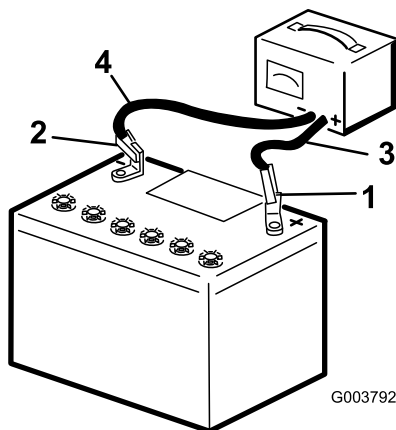

Figure 65
3. Connect the positive lead of the battery charger to the positive battery post (Figure 65).
4. Connect the negative lead of the battery charger to the negative-battery post (Figure 65).
6. When the battery is fully charged, unplug the charger from the electrical source, then disconnect the charger leads from the battery posts (Figure 65).